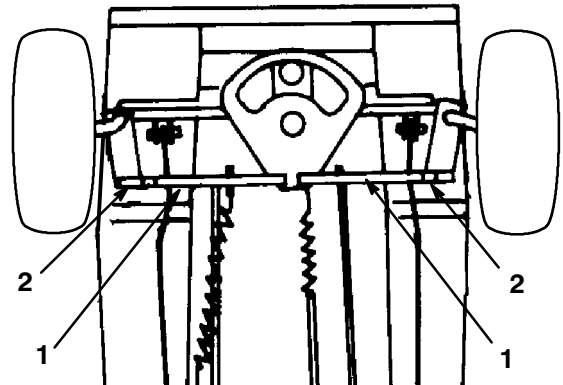

Figure 26
Maintain toe-in of the front wheels as specified. If there is uneven tire wear, lawn scuffing, or hard steering develops, an adjustment may be required. Check the toe-in after every 100 operating hours or yearly, whichever occurs first (Fig. 26).
3. Measure between the wheels, at spindle level, at the front and rear of the wheels (Fig. 26).
1. To align the front wheels, loosen the jam nut and turn tie rod end (there is only one adjustable tie rod) until the center line distance across the front of the wheels (d1) is .06-.25 in. (1.5-6.3 mm) less than the center line distance across the rear of the front wheels (d2) (Fig. 26 & 27).